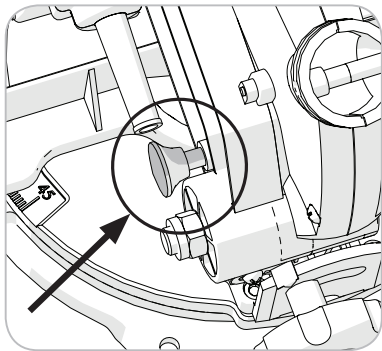

Fig. 6
- Ensure that the Cutting Head is in the locked down position with the latching pin fully engaged in its socket. (see Fig. 6)